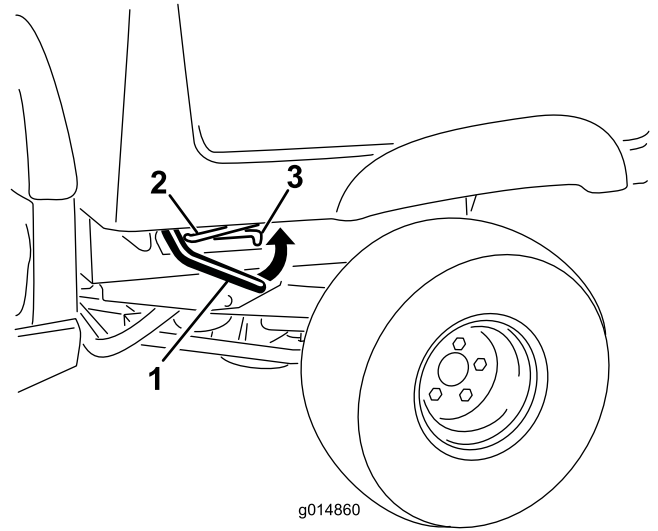

Figure 1
1. Lift the latch lever that is at the either side near the forward corner of the cargo box, and fully raise the box up (Figure 1).
2. Secure the cargo box by pulling the prop rod into the rear detent at end of the slot that is in the left frame of the machine (Figure 1).
9. Lift the latch lever that is at the either side near the forward corner of the cargo box (Figure 1).